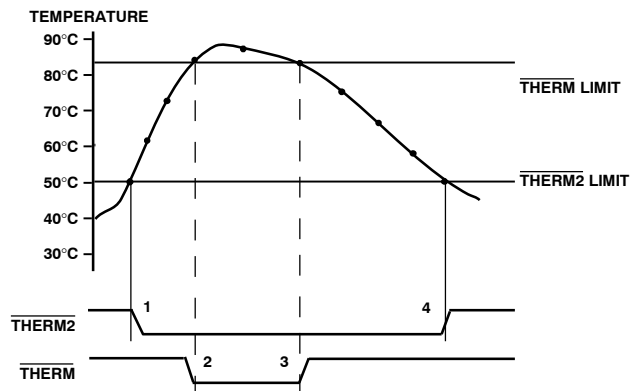

Figure 21. Operation of the $\overline{\text{THERM}}$ and $\overline{\text{THERM2}}$ Interrupts
Pin 13 on the ADT7483A can be configured as either an $\overline{\text{ALERT}}$ output or as an additional THERM output. THERM2 will assert low when the temperature exceeds the programmed local and/or remote high temperature limits. It is reset in the same manner as THERM, and it is not maskable. The programmed hysteresis value also applies to THERM2. Figure 21 shows how THERM and THERM2 might operate together to implement two methods of cooling the system. In this example, the THERM2 limits are set lower than the THERM limits. The THERM2 output can be used to turn on a fan. If the temperature continues to rise and exceeds the THERM limits, the $\overline{\text{THERM}}$ output can provide additional cooling by throttling the CPU.
- The $\overline{\text{THERM}}$ output deasserts (goes high) when the temperature falls to $\overline{\text{THERM}}$ limit minus hysteresis. In Figure 21, there is no hysteresis value shown.